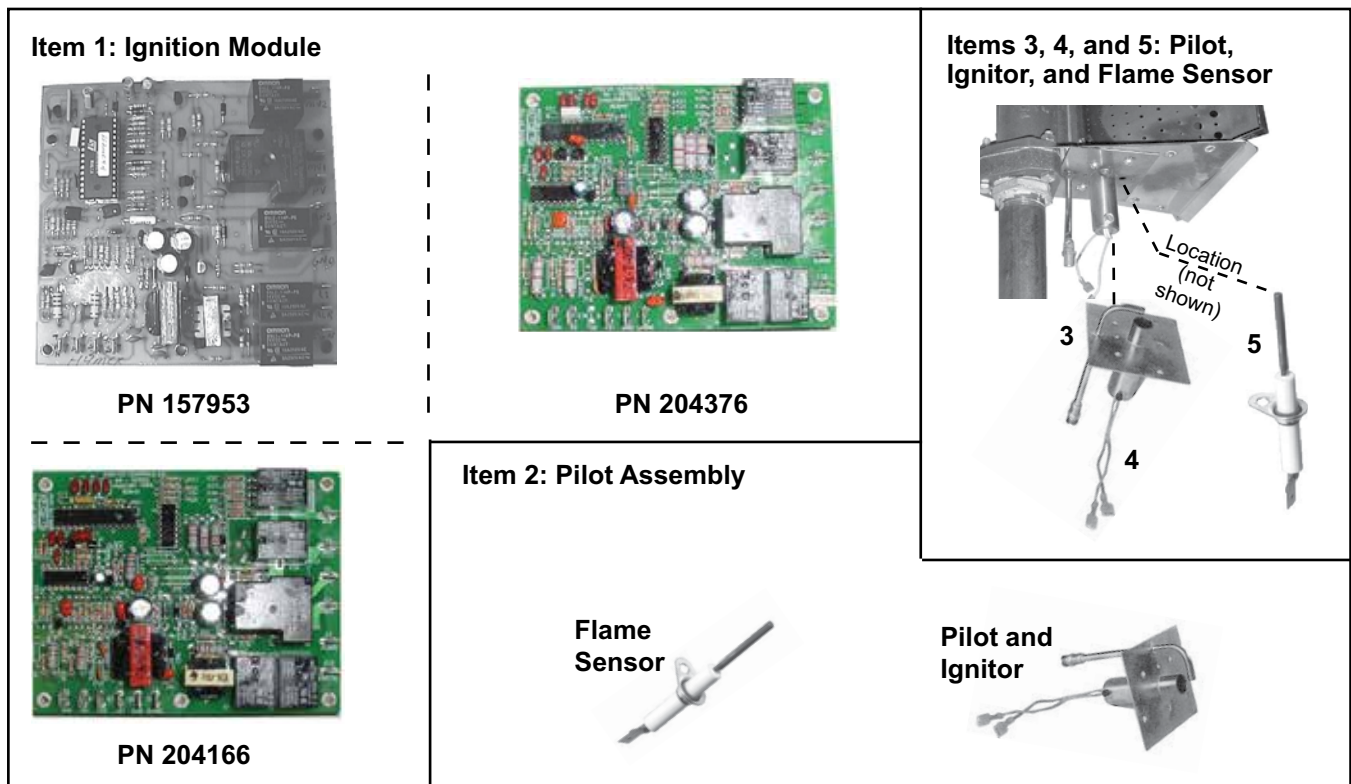

Figure 10. Hot Surface Ignition System Components—Units Manufactured *After* FEB 1996
- Hot surface ignition components are listed in Table 19 and shown in Figure 10.